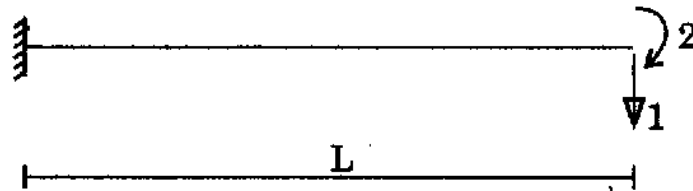

Figure 8
- (b) Derive the flexibility matrix of the plane beam shown in Figure 8 with respect to the degrees of freedom shown. Take $EI = \text{constant}$. 15